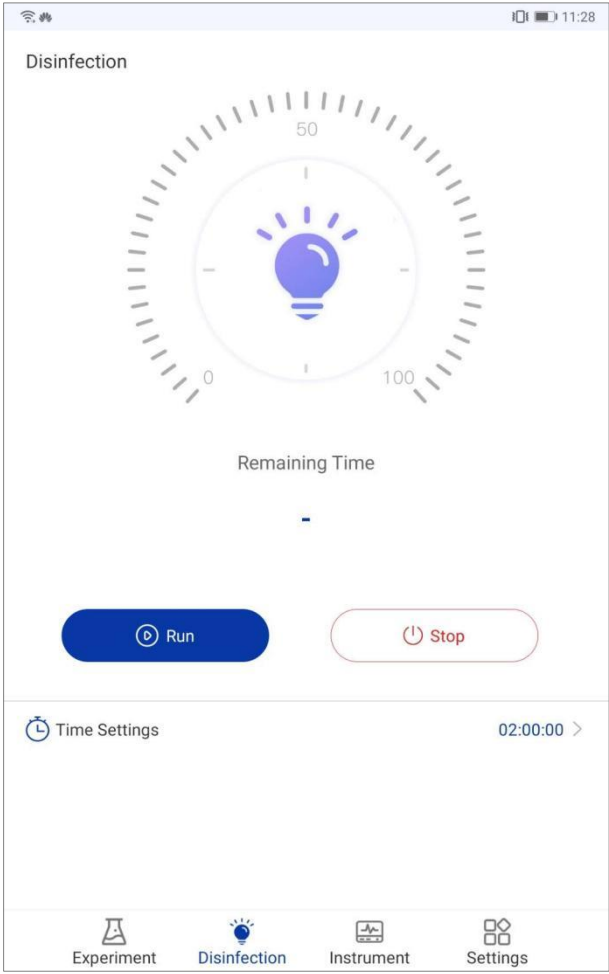

Figure 5-9. Application Software - Disinfection Interface
Click <  **Disinfection** > and the icon will change into <  **Disinfection** >, and the main interface will automatically switch to the Disinfection interface, where user can run/stop UV disinfection towards the instrument and set disinfection time, as shown in figure 5-9.
- 2) Click <  **Disinfection** > and the main interface will automatically switch to the Disinfection interface, as shown in figure 5-9.
- 3) User can click <  **Time Settings** > to set the UV disinfection time, and then click < **Run** > to run the UV disinfection program, as shown in figure 5-9. For detail operation instructions, please refer to 5.2.2 Disinfection Interface.